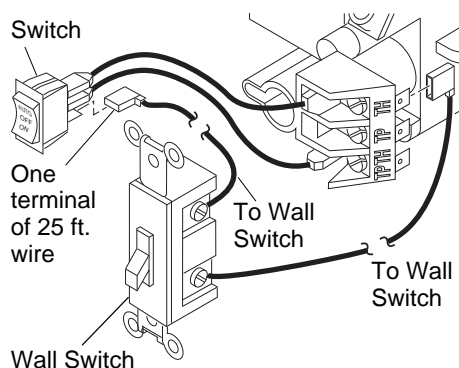

Figure 13 - Connecting Wire Terminals
1. Connect one terminal of 25 ft. wire to bottom contact of switch located on heater front control panel (see Figure 13).
2. Connect remaining wire terminal to the "TH" terminal on the control valve (see Figure 13).